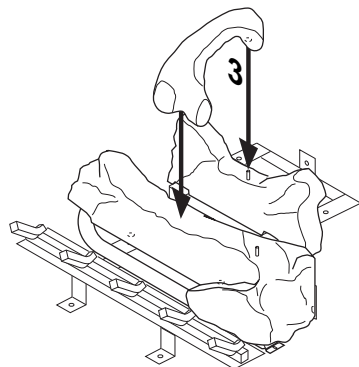

Figure 47 - Installing Log No. 3
3. Place log #3 (crossover log) onto the rear and front logs. Make sure it is seated properly on the smooth surface on the front log and on the pin on the back log as shown in Figure 47.